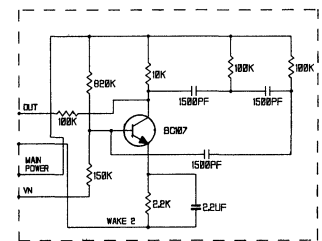

Fig.20 SINE-WAVE OSC
- Option 2 (Fig.20) Sine wave generation independent of radio